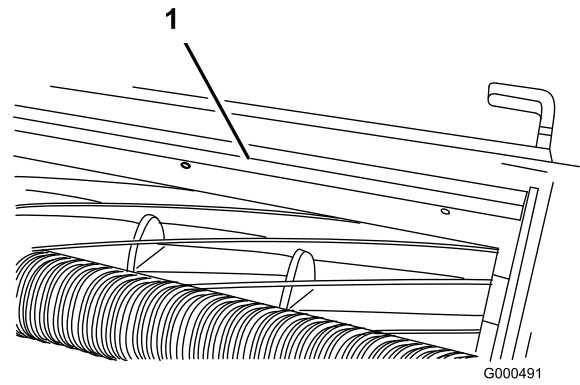

Figure 11
- Loosen screws securing top bar (Figure 11) to cutting unit.